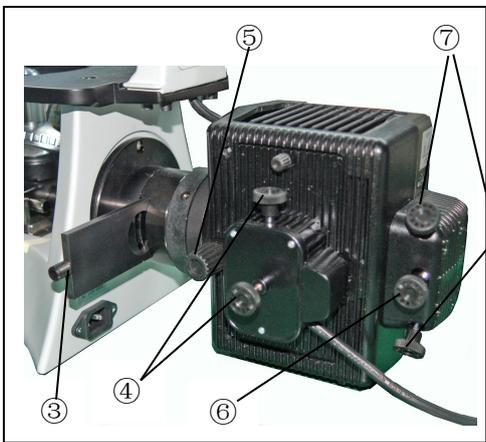

Fig 7
**Centering the mirror reflected image (Fig.7)**
Knob control: (Fig.7):